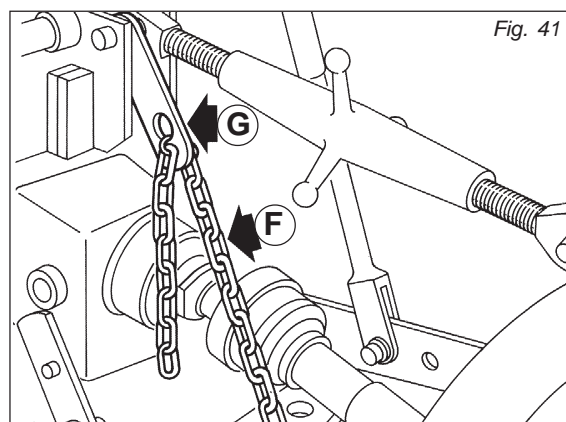

Fig. 41
- Using chain (F, Fig. 41), adjust the height of the sickle bar attachment with respect to the tractor. Attach the appropriate link to the special plate hole (G, Fig. 41). Mark the link used so that the same position may be used each time the sickle bar is fitted to the tractor.